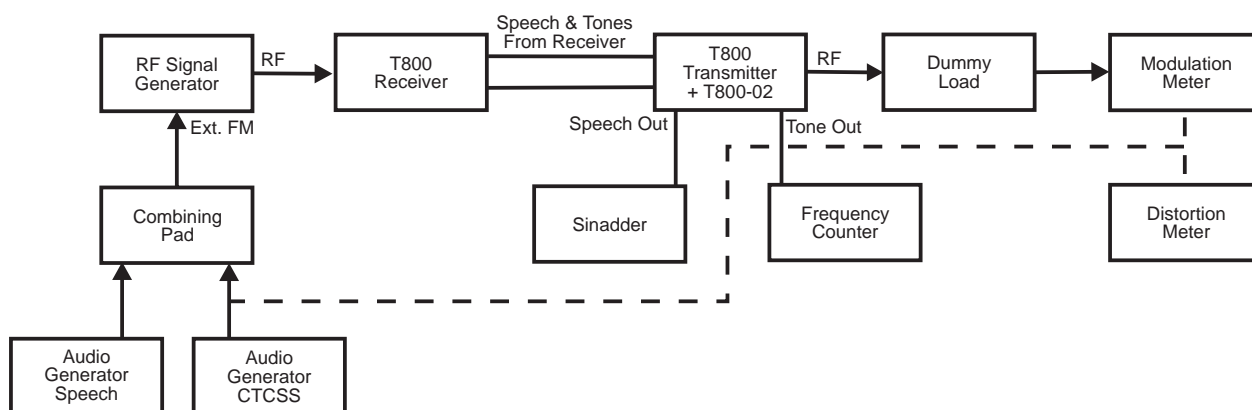

Figure 14 Transmitter Test Set-Up
- Set up the test equipment as shown in Figure 14.